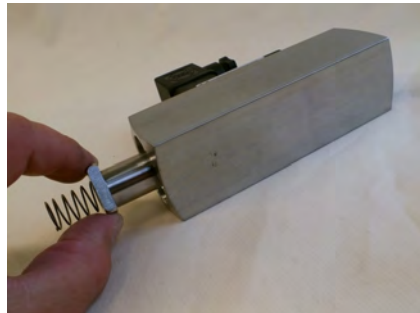

Fig. 38: Remove inner parts
4.  Carefully turn the device body 180° and remove the inner parts (spring, magnets and float). (Fig. 38)